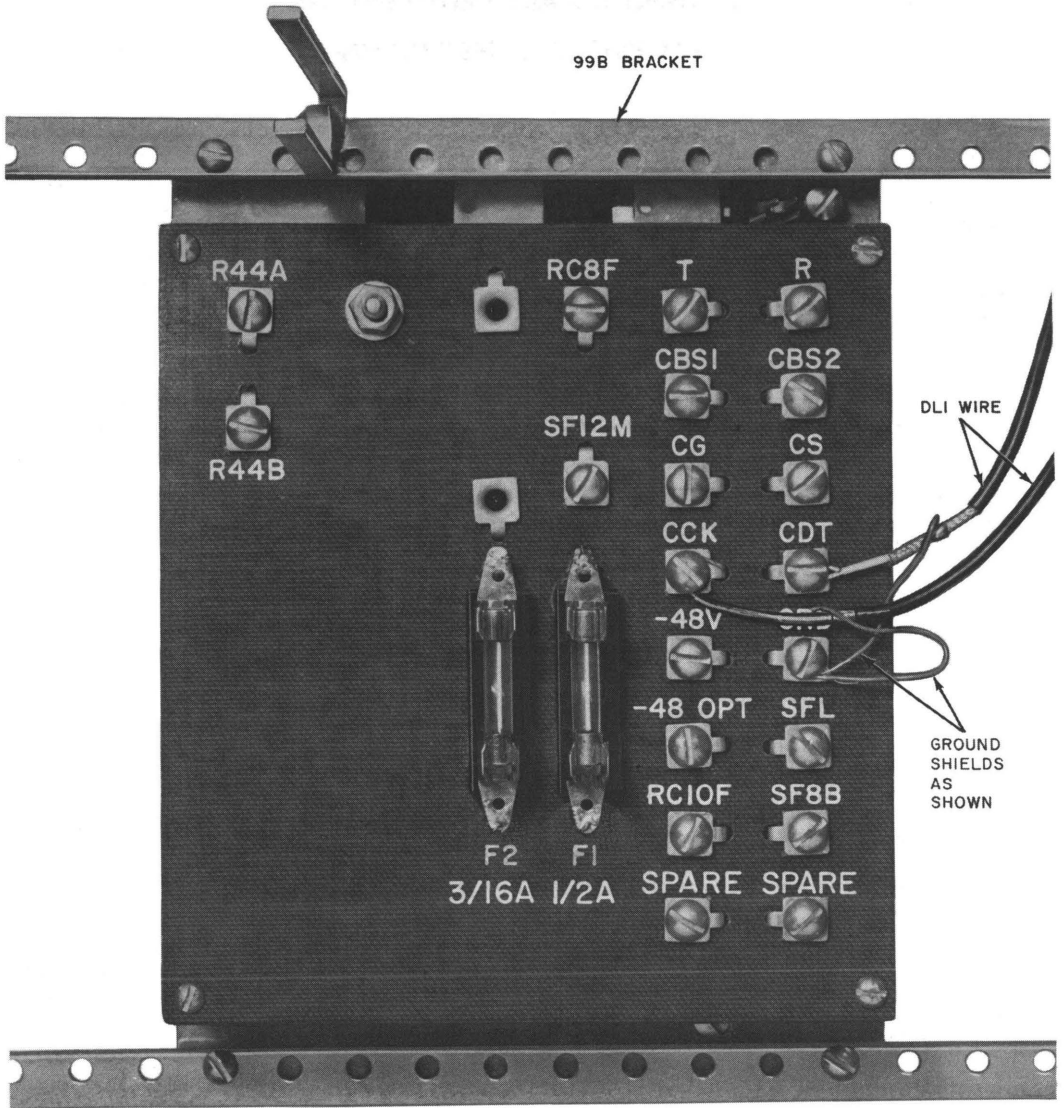

Fig. 1—118A Interconnecting Unit—Clock and Data Leads Connected
1.02 Connecting Arrangement C25 consists of a 118A interconnecting unit (IU), Fig. 1, 2, and 3. Strapping options are provided for SF signaling when required. One Connecting Arrangement C25 and its associated voice-grade private line has the capacity to handle the identification for up to 250 outgoing trunks depending upon the call attempts and traffic load on the CO. If two or more groups of trunks are terminated on different serving COs, a separate Connecting Arrangement C25 must be ordered for each trunk group.